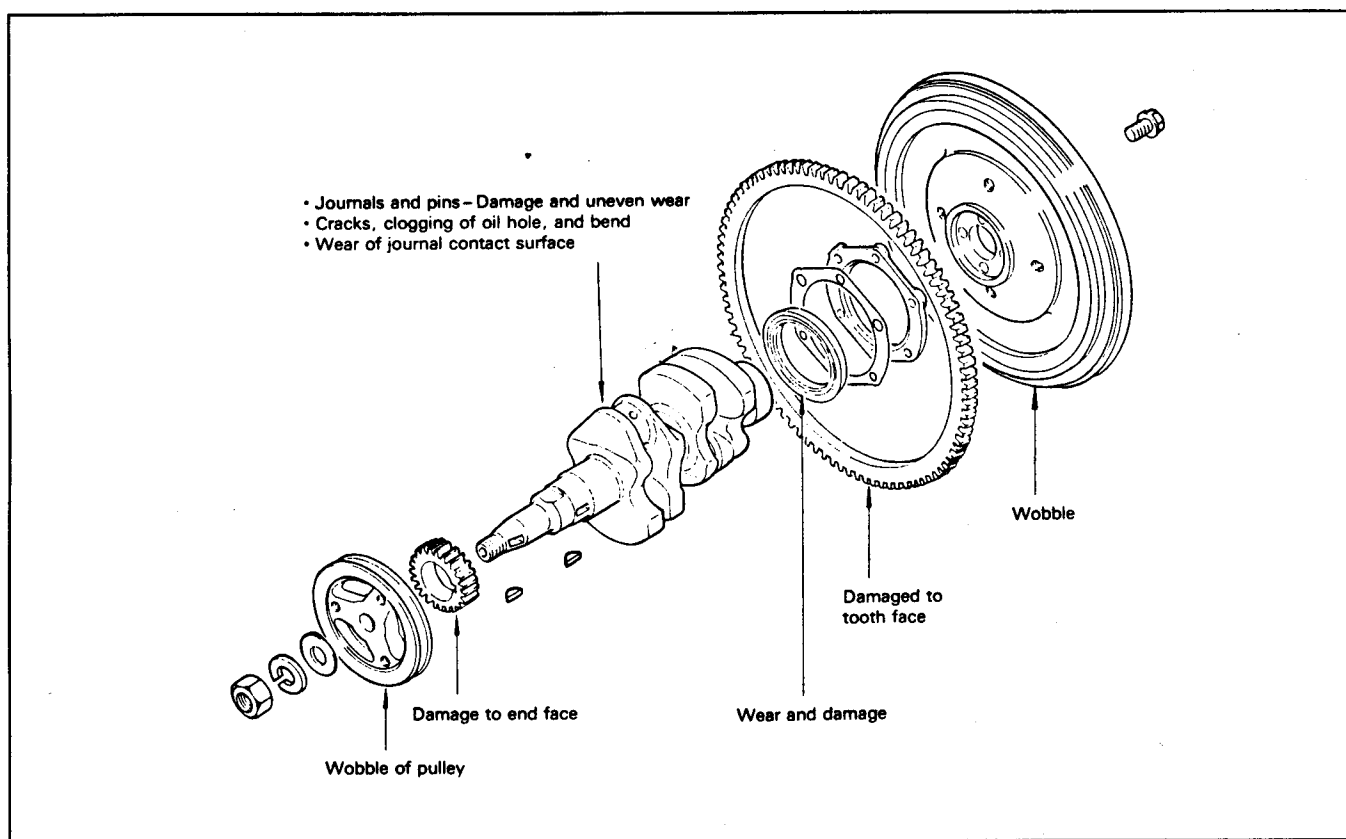

Figure 102
6. Inspect the removed parts. Repair or replace any worn or damaged parts (Fig. 102).